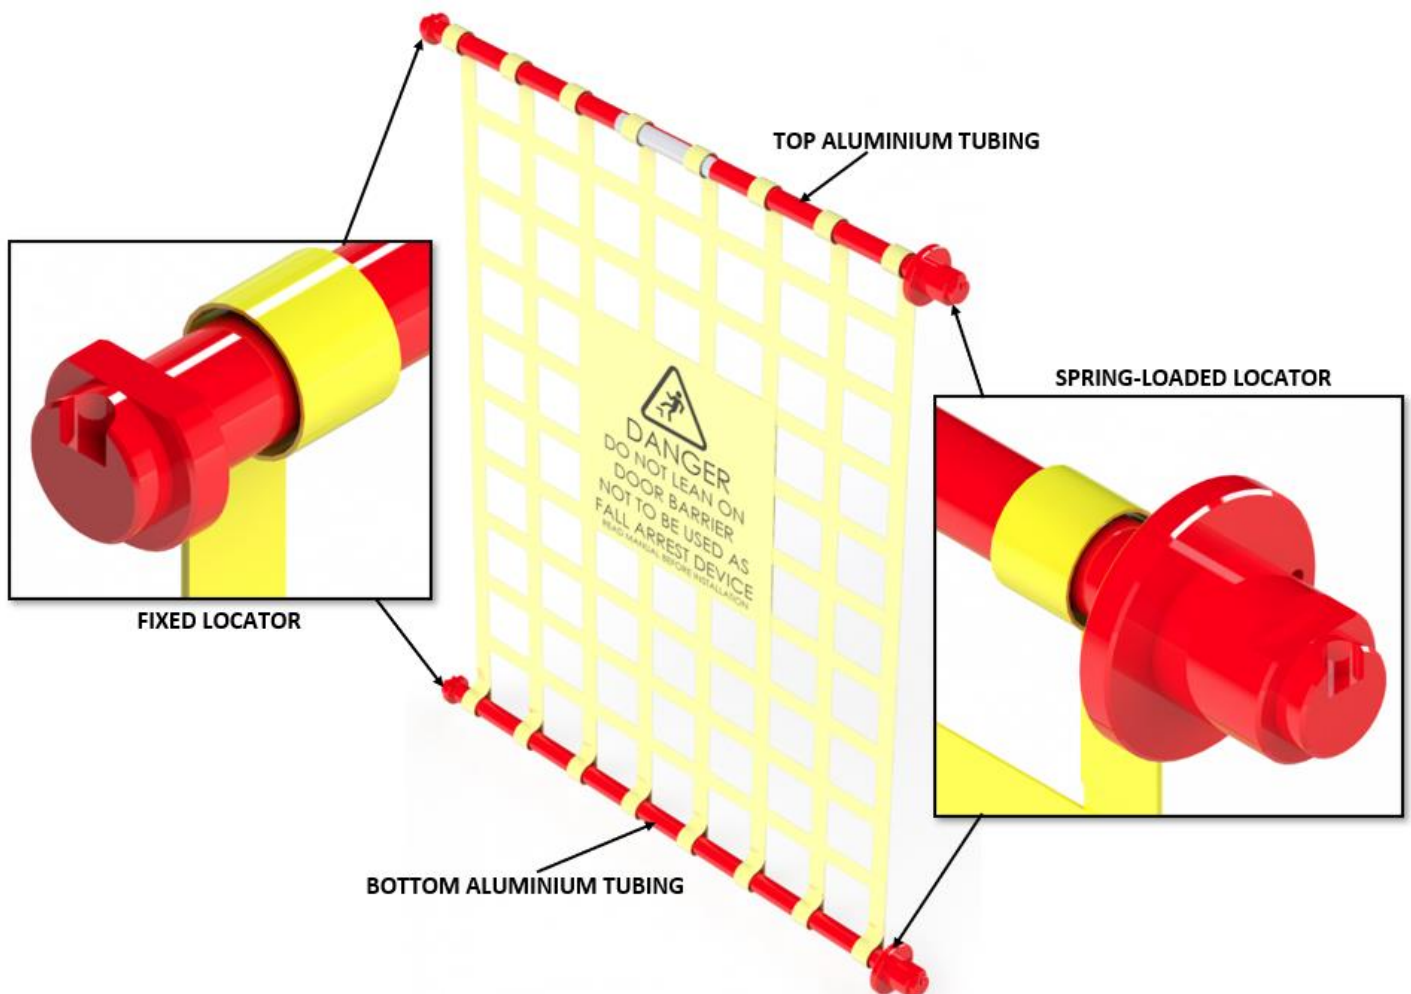

Figure 9. 239CA29, 241CA29, & 242CA39 Removal.
- 4.2.1 To remove the door barrier from the aircraft door frame. Start by removing the aircraft door barrier net from the bottom door brackets see figure 9 & 10.
- 4.2.2 If fitted remove the Quick Release Pin from the aluminum tube and push the sprung loaded pin of the aluminum tubing inwards and remove the door frame bracket. See figure 9 & 10.